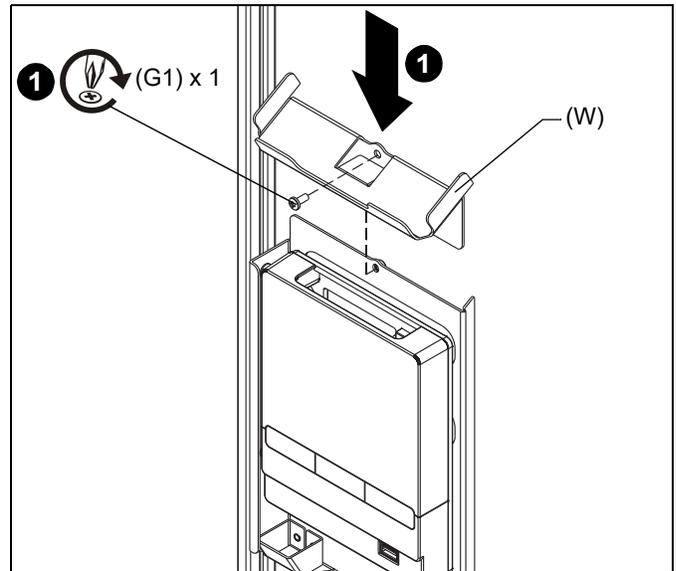

Figure 53
1. Install the remote holder bracket (W) to the top of the control pad bracket and attach using one 8-32 x 3/8" Phillips head screw (G1). (See Figure 53)